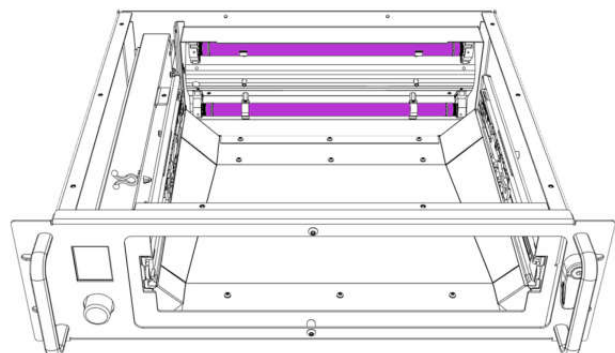

Fig. 16
2. Remove UV-C lamp protection panel (Fig. 16)